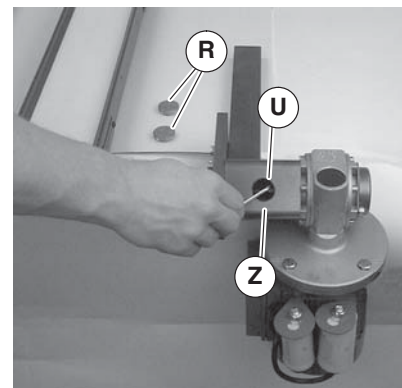

Figure 24
1. Remove inspection plugs (Figure 24, item R). Jog motor and rotate coupling to align set screws (U) with access